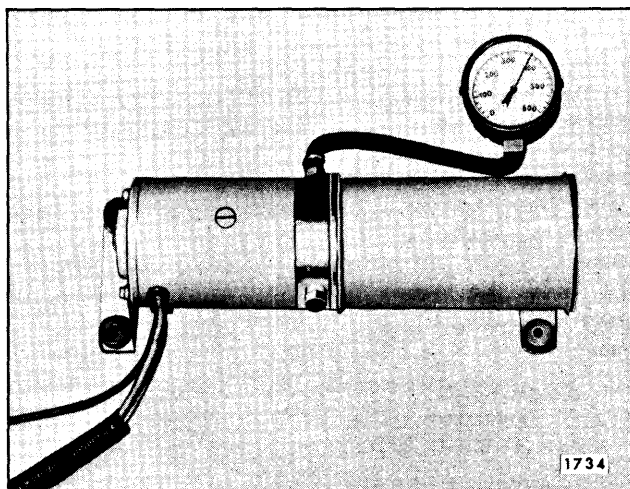

Fig. 13-67—Checking Pump Pressure
- b. Install plug in one port, and pressure gauge in port to be checked (Figure 13-67).